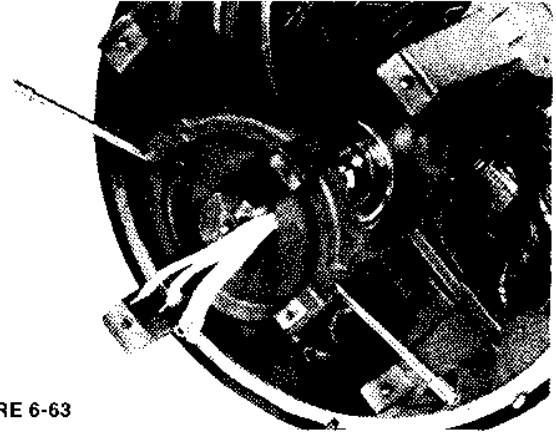
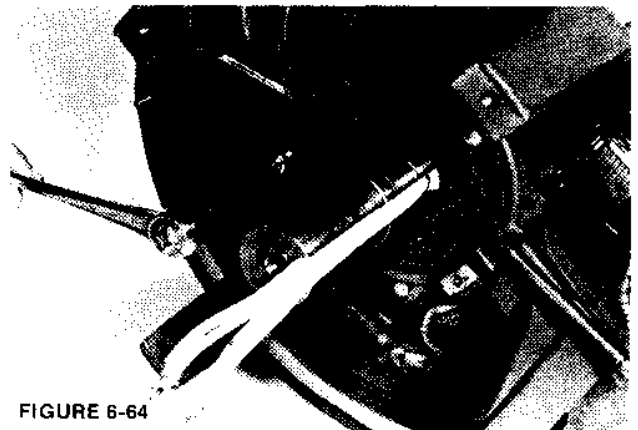

FIGURE 6-63
FIGURE 6-64
5. Install the outer bearing cap on the exciter end. (Figure 6-63.) Align holes in inner and outer bearing cap and install cap screws. Torque to 25 lb-ft (34 N-m) (Figure 6-64.)